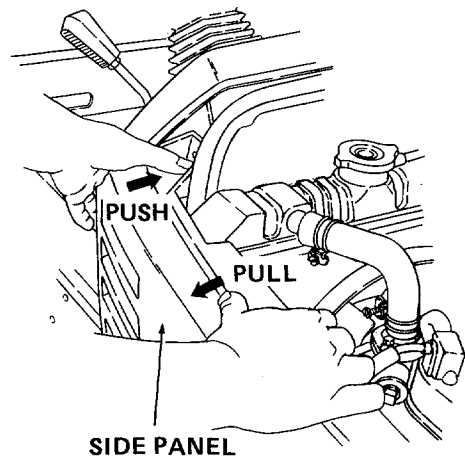

Figure 21
- Grasp top center of panel as shown in Figure 21 and gently pull toward you in order to position mounting hole over stud.